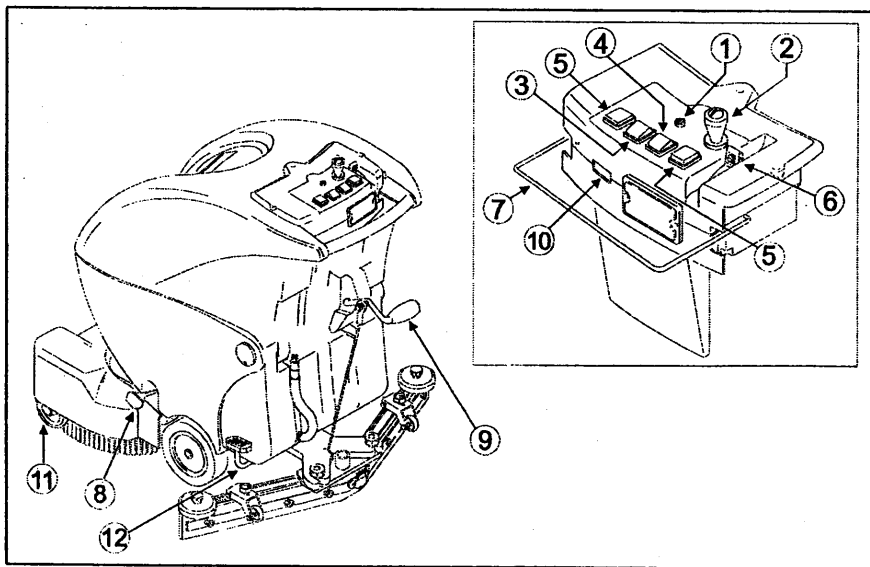

Fig. 6
With reference to fig. 6 the machine has the following controls and leds:
Feed the machine: insert and operate the key to release the emergency button (fig. 6, ref. 2) and press "1" on the brush switch (fig. 6, ref. 3).
To install the brush, lay it on the floor before the machine, stand at the rear of the scrubber and push on the handle in order to lift its front part and to lower the carriage small wheel (fig. 6, ref. 11). Go ahead (holding down the handle) and centre the flange on the brush. Lift the carriage small wheel (fig. 6, ref.11) pressing on the proper pedal (fig. 6, ref. 12), resting then the machine on the brush. Operate the brush control lever (fig. 6, ref. 7) for short instants: the brush is "screwed" in the hub automatically. If the operation is not successful, press on the handle again and repeat the centering operation pressing the brush control lever.
- check that the cock control lever (fig. 6, ref. 6) is at the position "off";
- insert and operate the key to release the emergency button (fig. 6, ref. 2), and make all the machine functions active: the power supply led lights up (fig. 6, ref. 1);
- press "1" on the main switch (fig. 6, ref. 2) to enable all the machine functions;
- move the cock lever (fig. 6, ref. 6) to the position of minimum flow of solution: the detergent solution begins to reach the brush;
- lower the squeegee by means of the proper lever (fig. 6, ref. 9);
- press "1" on the brush switch (fig. 6, ref. 3) to enable the function "Brush";
- press "1" on the suction unit switch (fig. 6, ref. 4) to start the suction motor;
- press the brush lever (fig. 6, ref. 7) beneath the handle: the brush motor starts. The brush turns and spreads the solution on the floor.
- while working, check the quality of washing and, if necessary, adjust the flow of solution sent to the brush (by turning the lever (fig. 6, ref.6)).
- **Models with battery:** if the warning led (fig. 6, ref. 1) starts flashing, it means that the storage batteries are getting flat. Therefore, it is necessary to recharge them, as there is no device blocking the total running of the machine; if you keep on working, the batteries could become damaged irreparably.
If the brush control lever (fig. 6, ref. 7) is operated intermittent for a long time, the brush motor could become overheated and therefore damaged. Moreover, in machines with cable the motor needs 2-3 seconds of rest to get started without strain. For this reason limit the "lever shots" to the sole events when they are strictly necessary.
- move the cock lever (fig. 6, ref. 6) to the position "CLOSED";
- release the brush lever (fig. 6, ref. 7) placed beneath the handle: the brush motor switches off and the machine stops;
- press "0" on the brush switch (fig. 6, ref. 3) to disable the function "Brush";
- raising the lever (fig. 6, ref. 9), lift the scrubber from the floor to prevent the drying
- let the suction motor run for at least 2 minutes to make sure that it is completely dry; then press "0" on the suction unit switch (fig. 6, ref. 4) to switch off the suction motor;